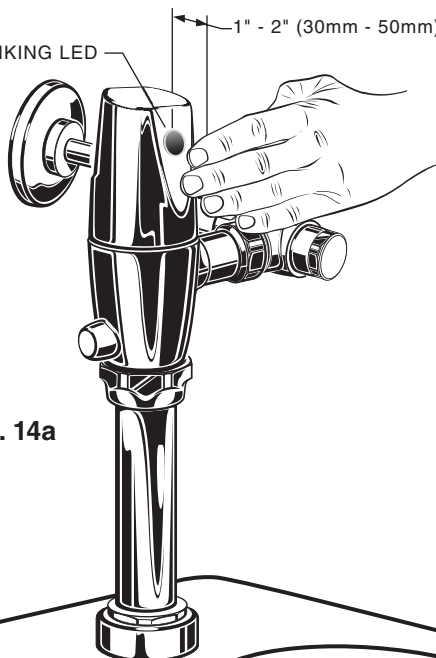

Fig. 14a
3. While the SENSOR CONTROL LED (6) is blinking slowly, place your hand 1 to 2 in. (30-50mm.) in front of the sensor. Fig. 14a.